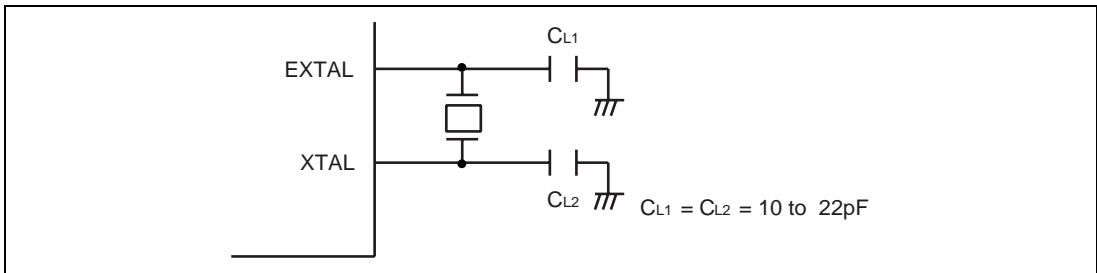

Figure 5.2 Connection of Crystal Oscillator (Example)
(1) Connecting an External Crystal
- ① **Circuit Configuration:** An external crystal can be connected as in the example in figure 5.2. An AT-cut parallel resonating crystal should be used.